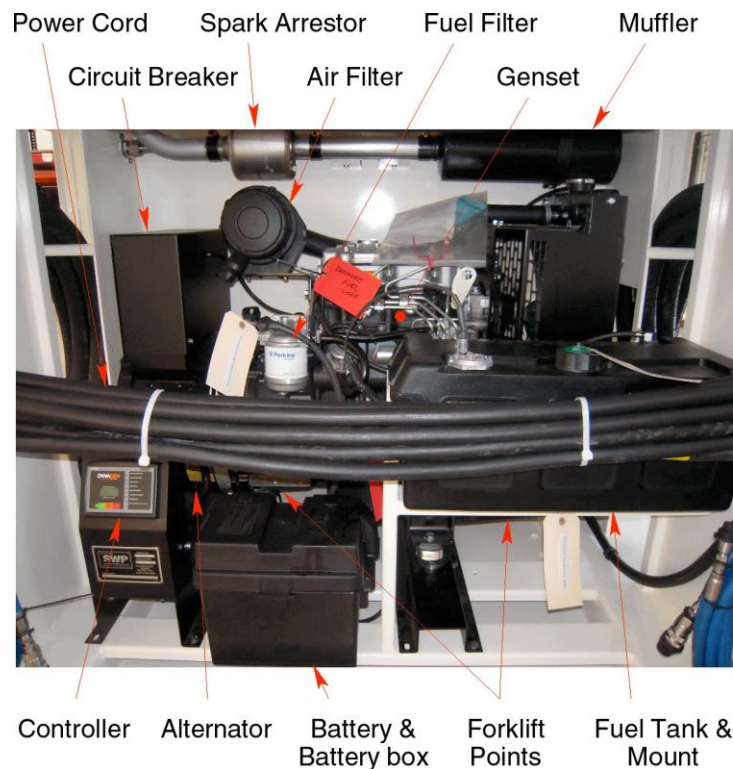

FIGURE 11. Diesel Generator Replacement
9.5 DIESEL GENERATOR SET REMOVAL (1011A) (FIG. 11)
9. Raise the generator set with a forklift at locations shown in Fig. 11 and remove from the CSC.